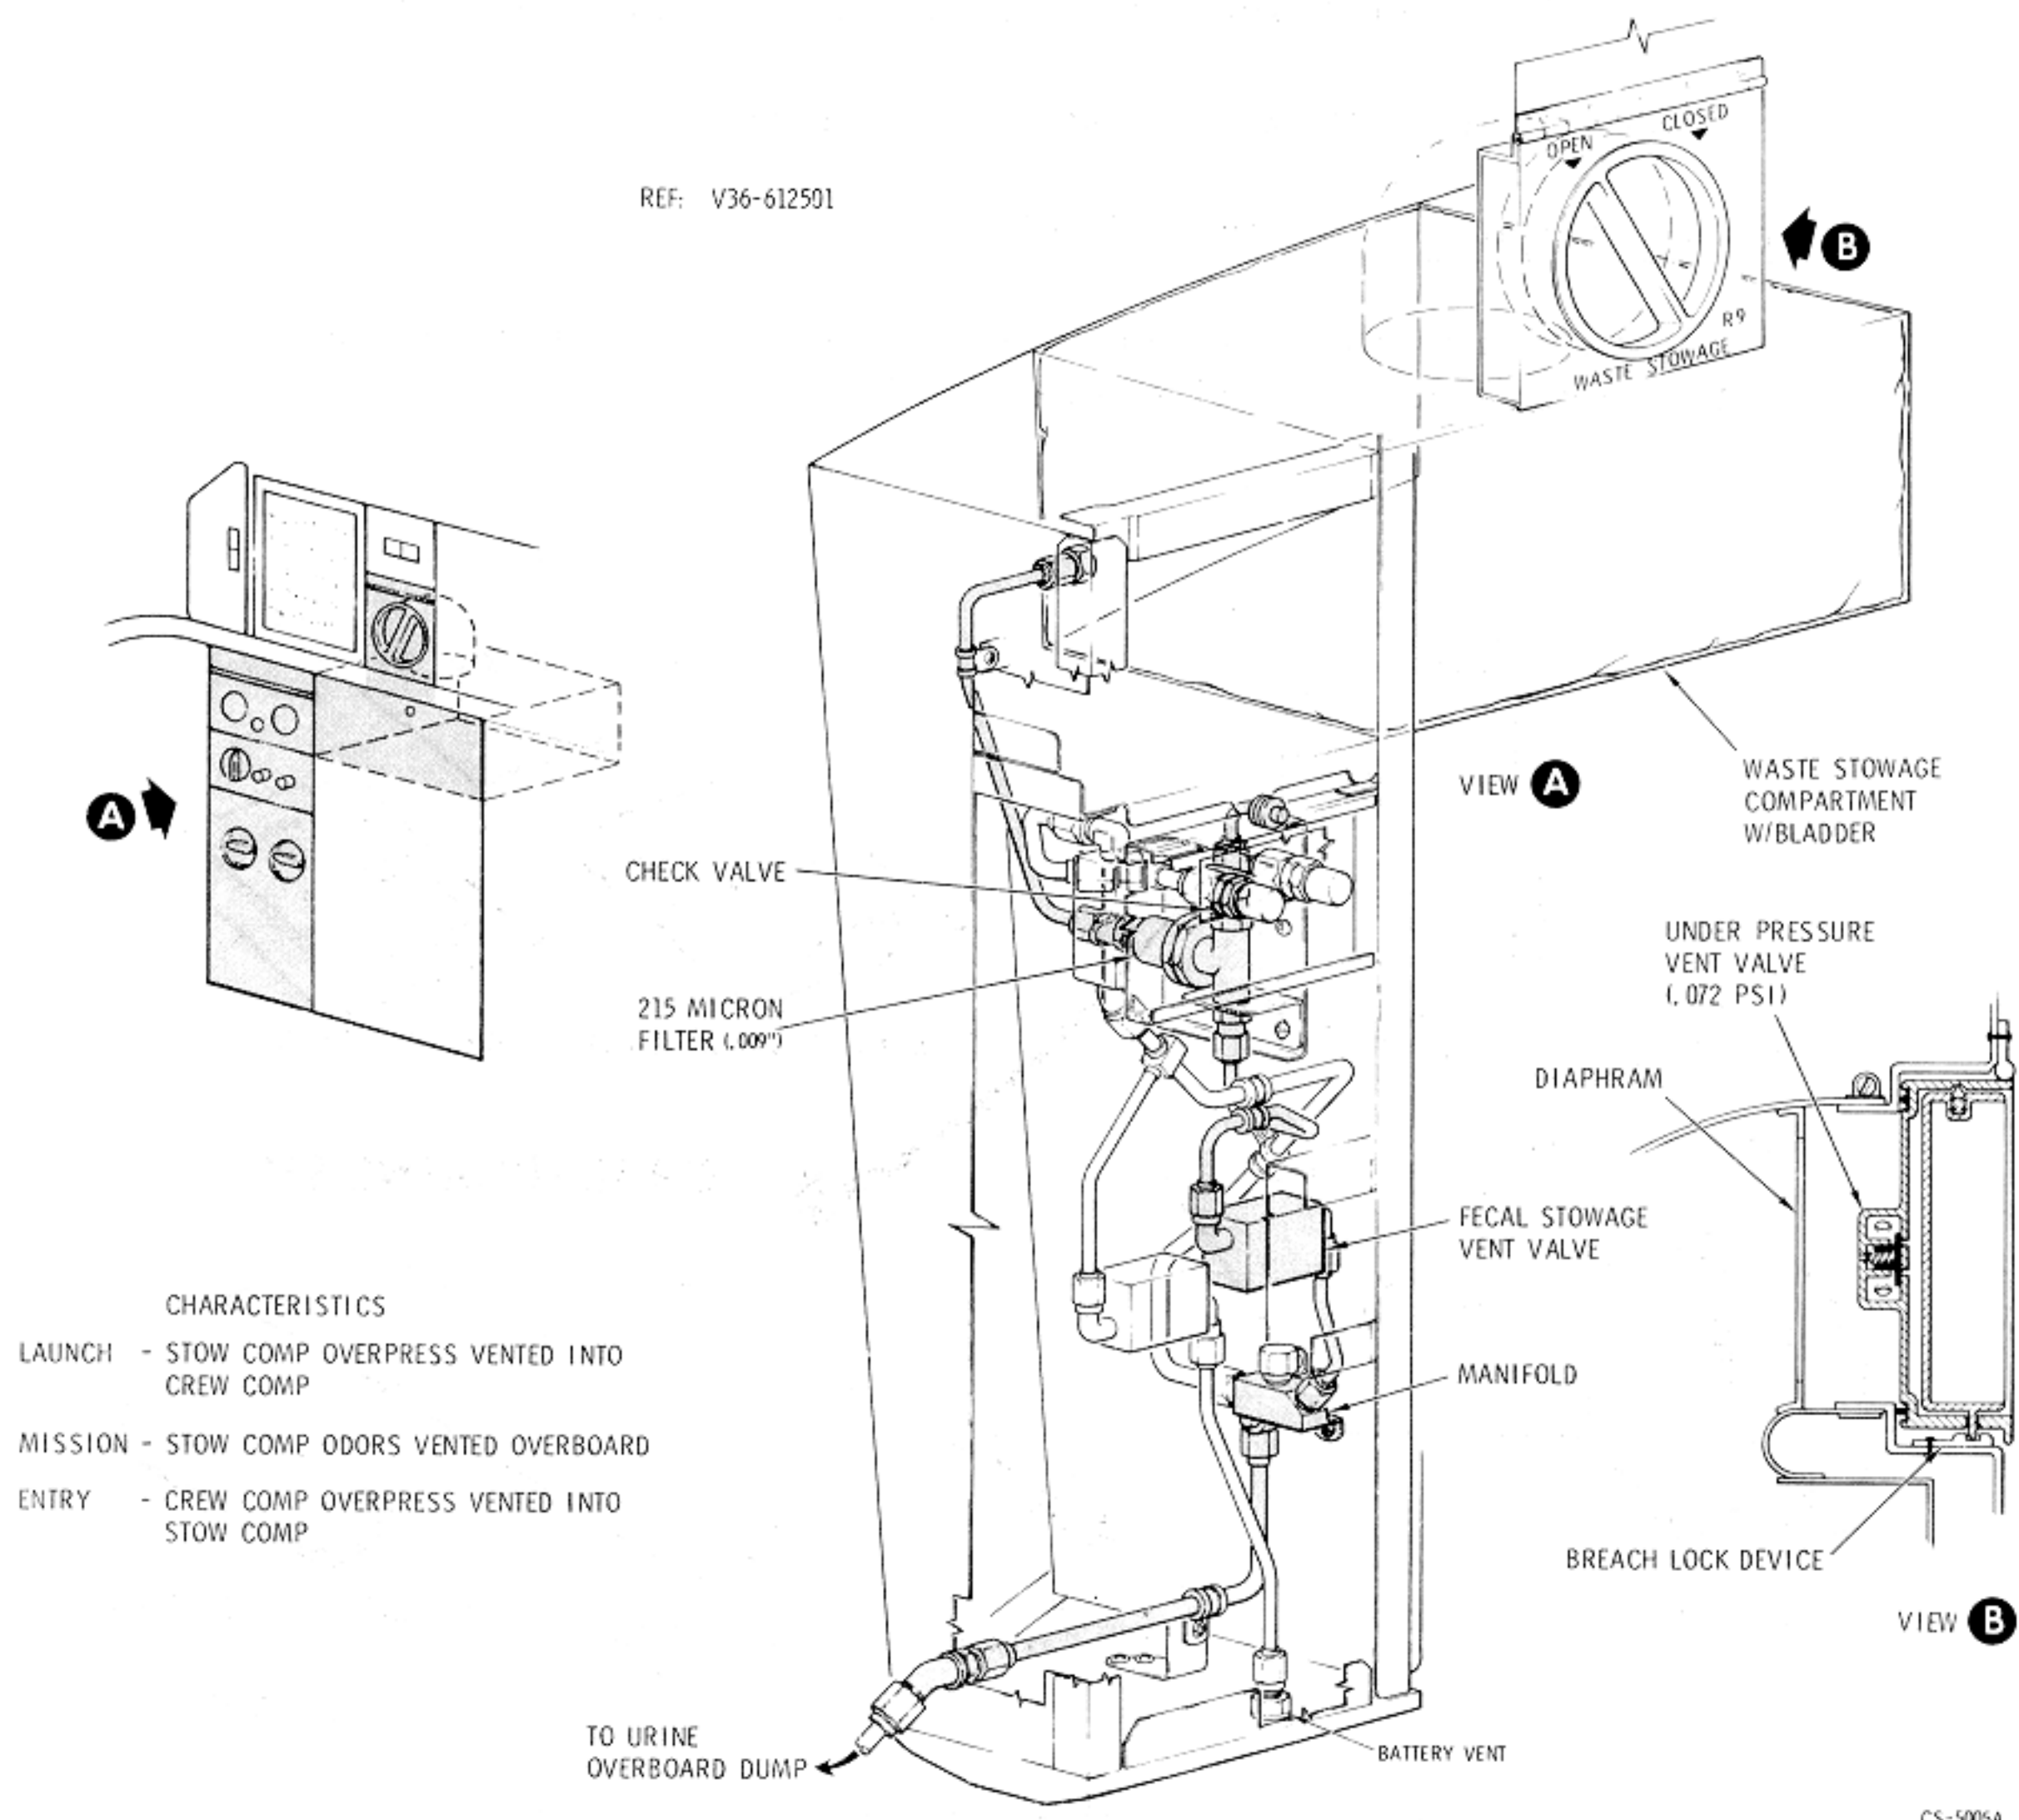

Figure 2.12-44. Waste Stowage Vent System
2.12.6.3.4 Waste Stowage Vent System (Figure 2.12-44).